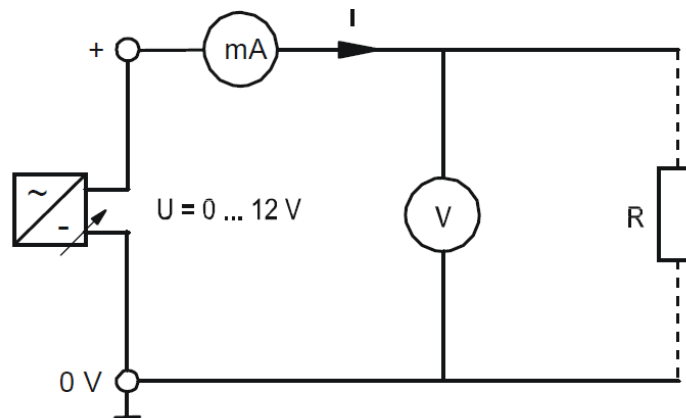

Fig. 3
1. Set up the circuit as shown in Fig. 3